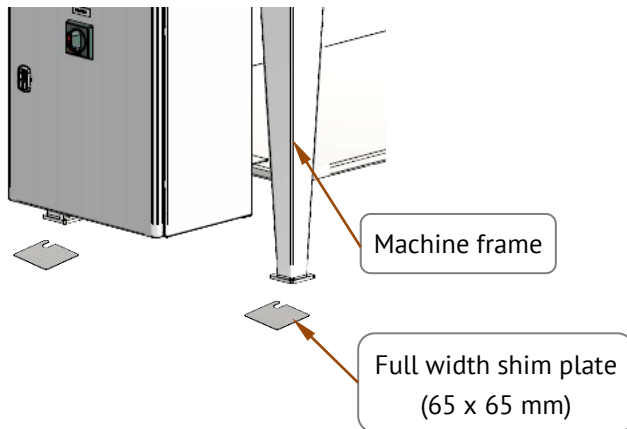

Figure 4-2: Shim plate
- If alignment is needed, lift one end of the machine and place full width shim plates (Fig 4-2 customer delivery) on the foundation surface at the two anchoring points.
- Use additional full width shim plates (See Fig: 4-2) to level the machine in both width and length direction with the use of a spirit level.
- Fit nuts on the anchoring bolts (customer delivery) at all four corners A1, A2, B1, and B2, and tighten the bolts (Fig 4-2).